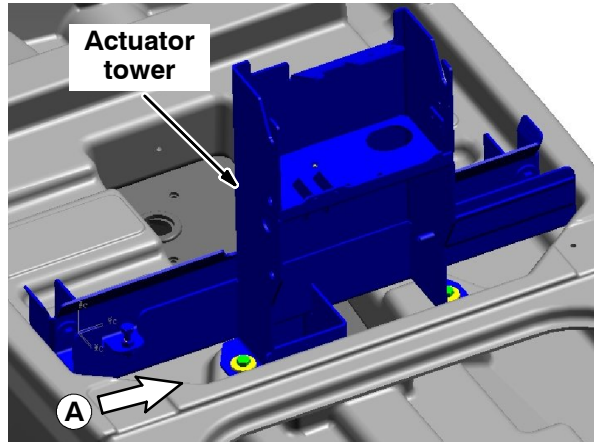

FIG. 12
20. Route the 3' clear hose (36) under the actuator tower and to area (A). Refer to Fig. 12.